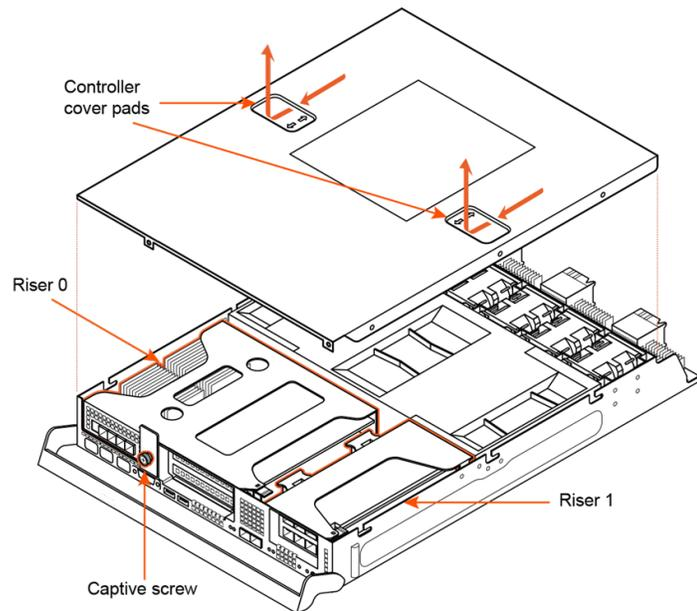

Figure 14-6. Removing the Controller Cover
2. Press the controller cover pads, slide the cover toward the retaining bar about 1/2 inch, and then lift the cover off. See Figure 14-6.